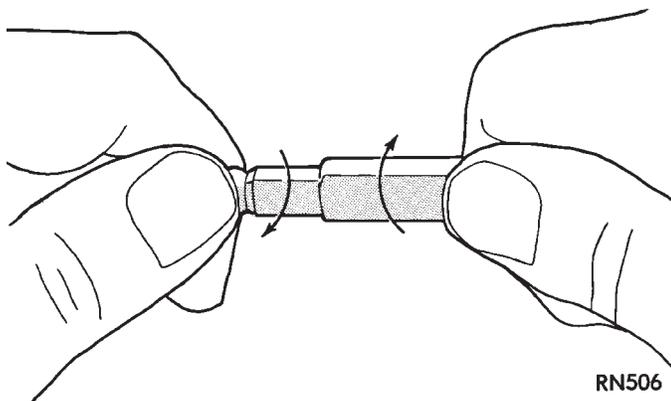

Fig. 18 Power Antenna Twist Connector
- Disconnect lead-in cable by twisting at connector (Fig. 18).